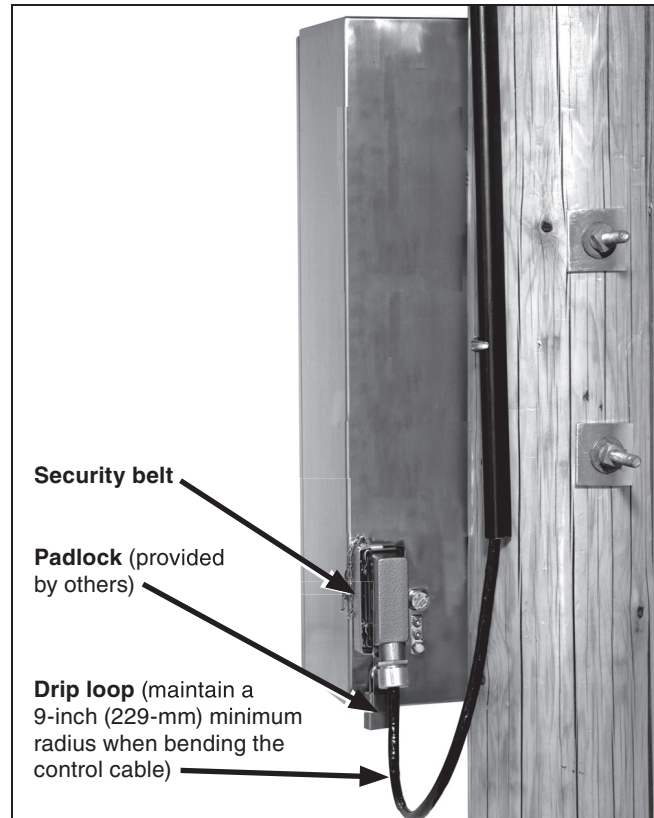

Figure 23. Connecting the control cable to the control unit enclosure.
STEP 21. Form a drip loop with the control cable where it attaches to the control unit. *Maintain a 9-inch (229-mm) minimum radius when bending the control cable at the drip loop and at the switch connection.* Adjust the control cable along the length of the utility pole and secure the control cable to the utility pole using suitable guards or clamps. Form a coil with any excess control cable, maintaining a 9-inch (229 mm) minimum radius, and secure to the utility pole. See Figure 23.